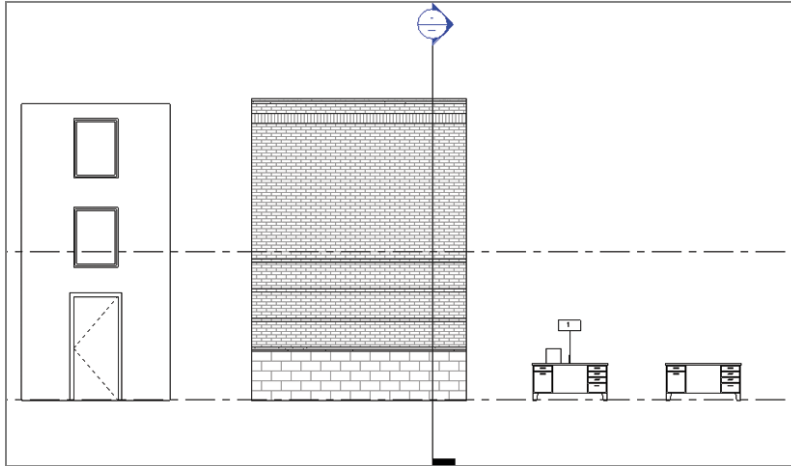

FIGURE 6.2 Zoom Sheet Size
2. The best method to confirm what will be graphically legible when you print is to click the down arrow on the Navigation bar (on the right side of the view) and select the Zoom Sheet Size option. Doing so will take the scale of the view into account when zooming in (or out). The difference is shown in Figure 6.2.